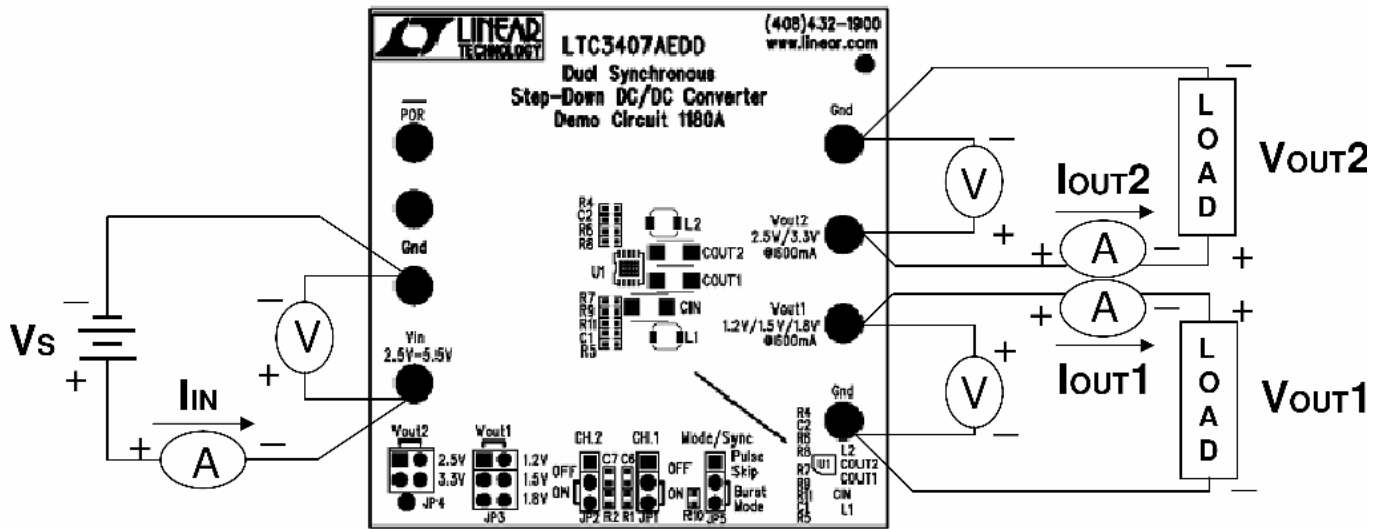

Figure 1. Proper Measurement Equipment Setup
The DC1180 is easy to set up to evaluate the performance of the LTC3407A. For a proper measurement equipment configuration, set up the circuit according to the diagram in Figure 1.
1. Connect the input power supply to the Vin and GND terminals. Connect the loads between the Vout and GND terminals. Refer to Figure 1 for the proper measurement equipment setup.